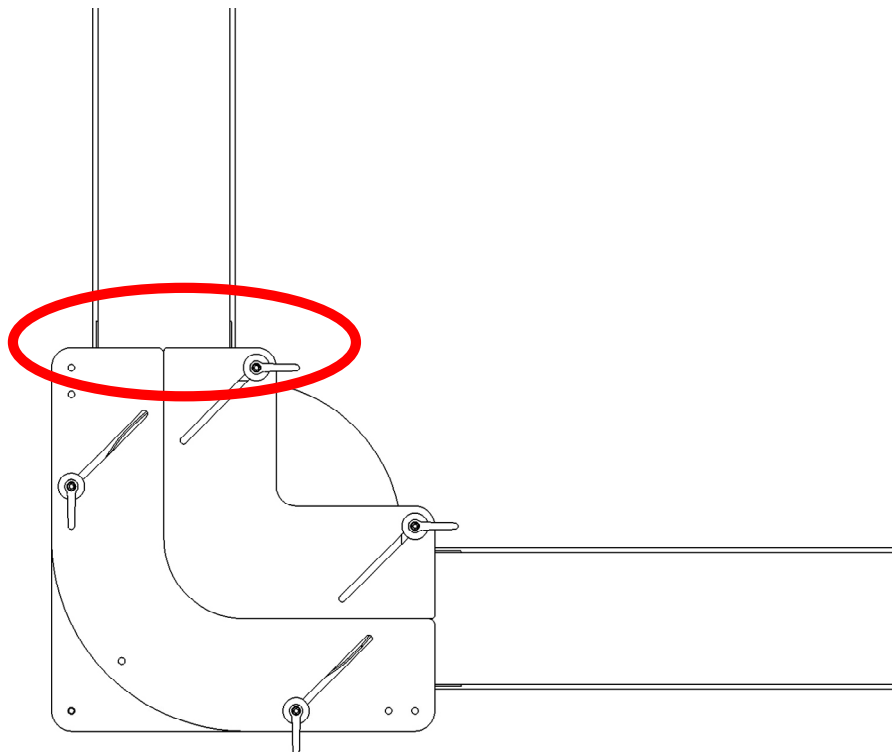

Figure 4: Install TD120 onto second conveyor
5. Bring the second conveyor into position. Install the remaining (4) 10-24 Bolts. Do not fully tighten. Refer to *Figure 4*.